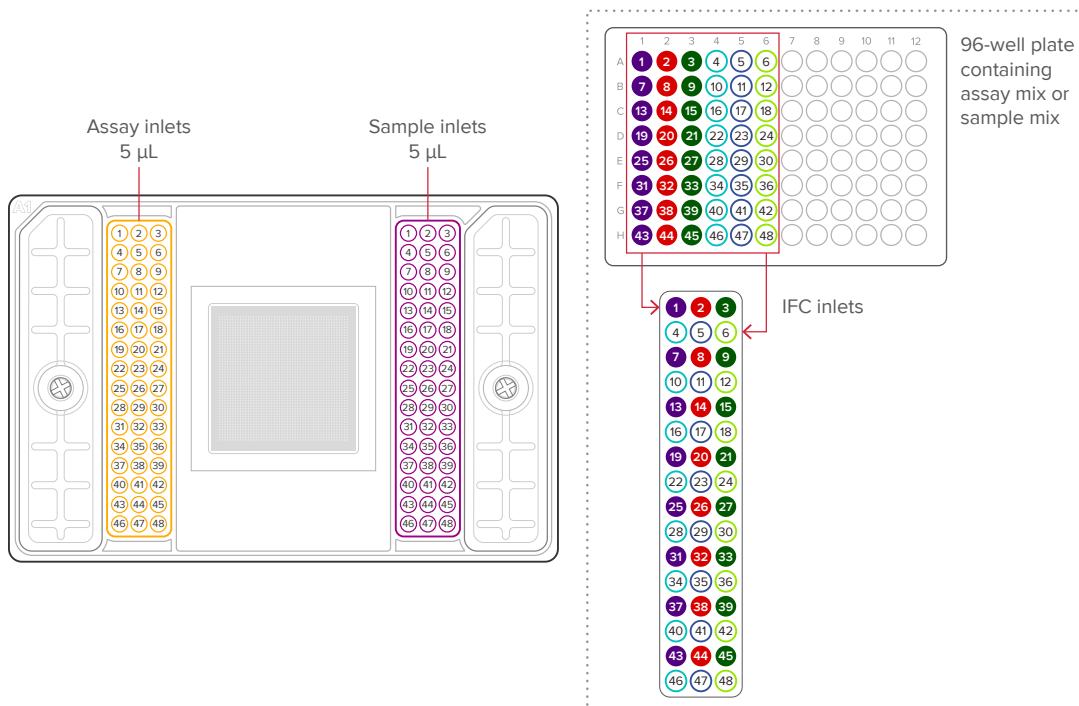
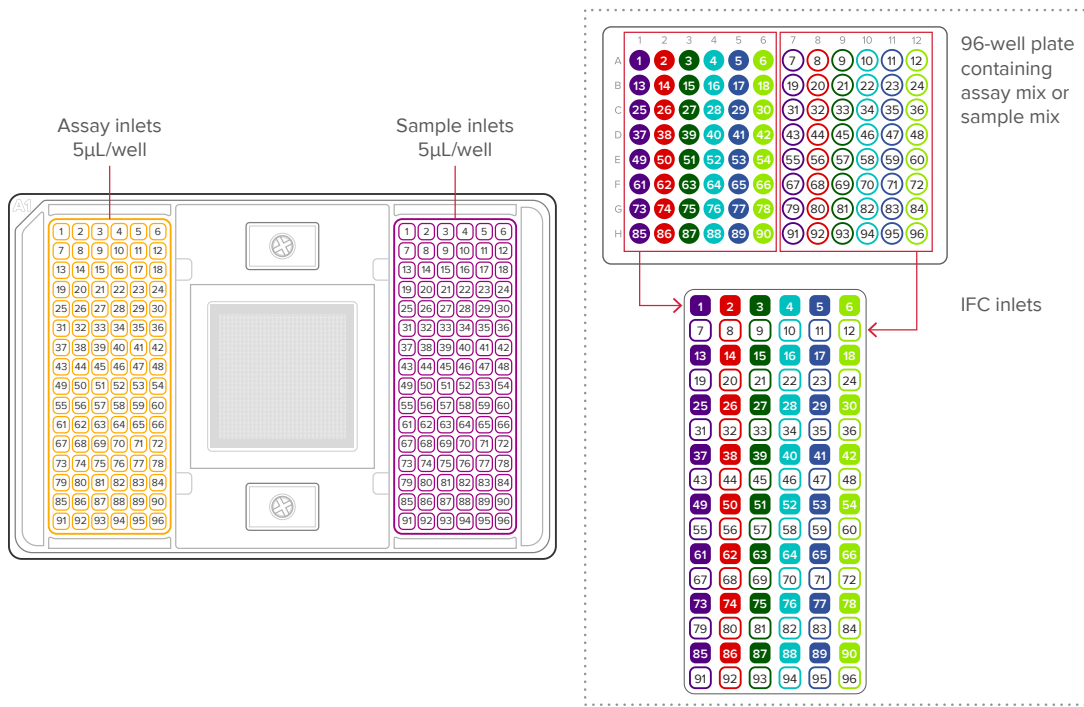

Figure 4. Pipetting map for 48.48 IFC-X
Figure 5. Pipetting map for 96.96 IFCs
- If using the **48.48-X IFC** (Figure 4) or **96.96 IFC** (Figure 5), pipet assay and sample mixes into the IFC: